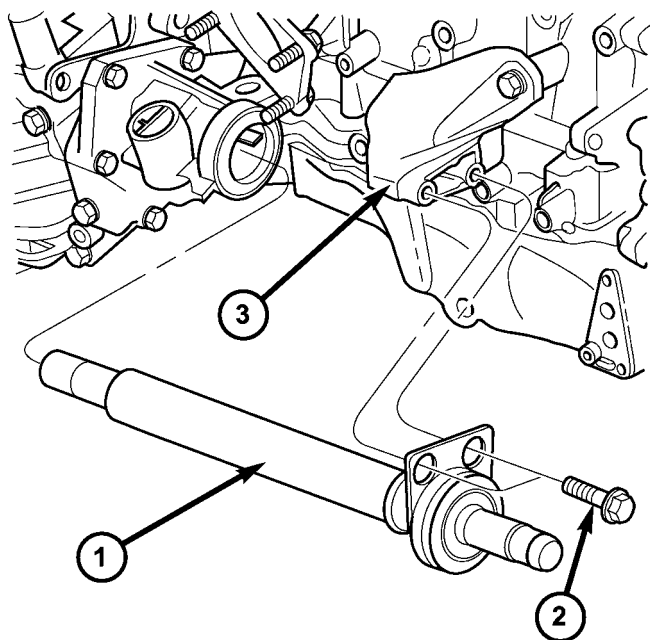

Fig. 1 Intermediate Shaft/Bearing Assembly—2.4L Turbo Models
(1) Remove passenger side halfshaft assembly. (Refer to 3 - DIFFERENTIAL & DRIVELINE/HALF SHAFT - REMOVAL)
(2) Remove two (2) intermediate shaft bearing-to-bracket bolts (Fig. 1).
(3) Slide intermediate shaft/bearing assembly out of transaxle (Fig. 1).
(2) Install intermediate shaft into position (Fig. 1). Install two (2) intermediate shaft bearing-to-support bracket bolts and torque to 28 N·m (250 in. lbs.).
(3) Install passenger side halfshaft (Refer to 3 - DIFFERENTIAL & DRIVELINE/HALF SHAFT - INSTALLATION).